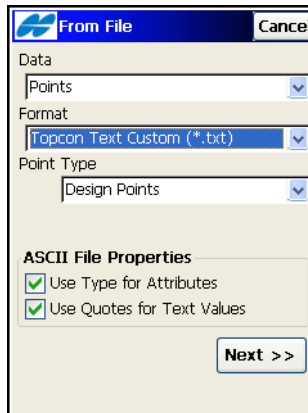

Figure 5-16. Import From Text File
If the *Text Custom* format is selected, the **From File** screen (Figure 5-16) has an *ASCII File Properties* field.
- *ASCII File Properties* – defines the condition of the imported file interpretation. Check and enable *Use Type for Attributes* and *Use Quotes for Text Values* (one or both). These conditions use the same type for the attributes and quotes for the text values (Figure 5-16).